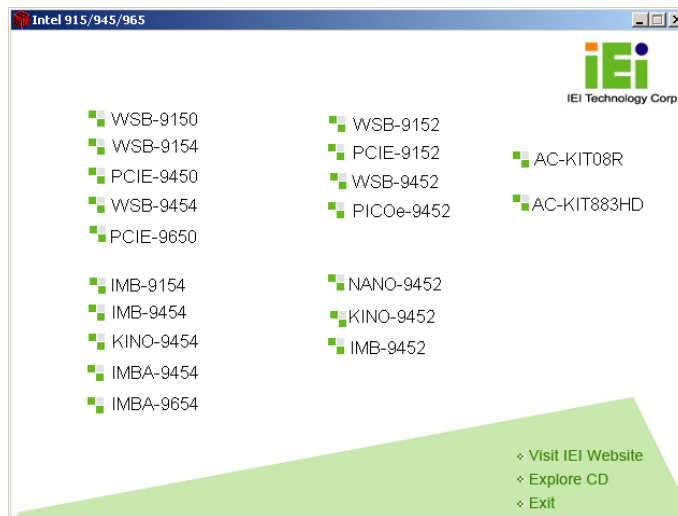

Figure 7-1: Introduction Screen
Step 3: Select NANO-9452 from the initial menu shown in **Figure 7-1**.